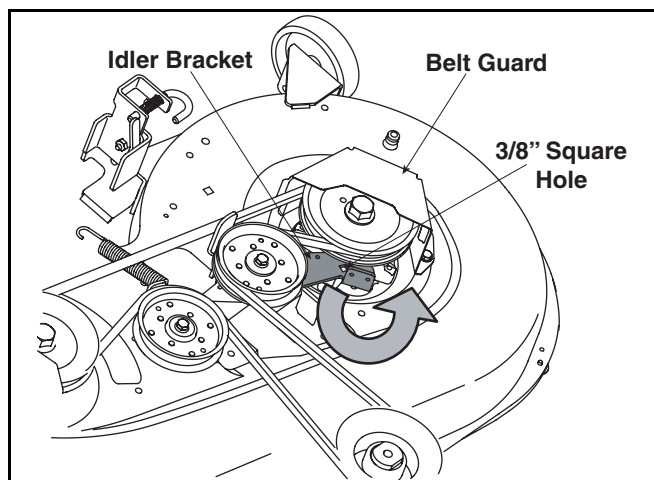

Figure 22
- Insert a 3/8"-drive ratchet wrench (set to *loosen*) into the square hole found in the idler bracket on the left side of the deck's surface. See Figure 22.